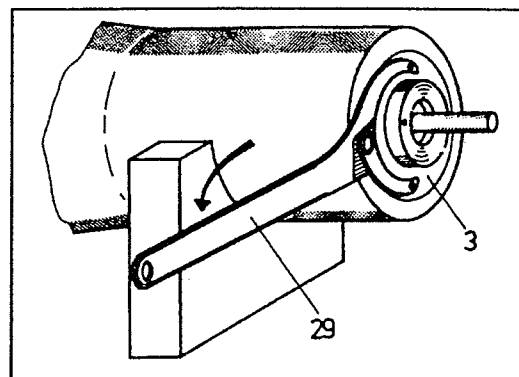
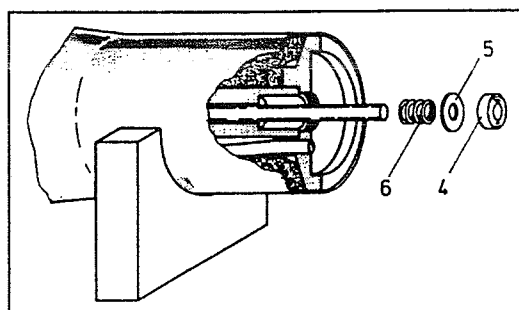

Fig. 3
Fig. 4
- The liquid distributor pos. 3 is fixed by means of the pin spanner pos. 29. Take care the spanner is lying completely plane against the liquid distributor. The liquid distributor is dismounted. Thereafter, the guide bearing pos. 4 the washer pos. 5 and the spring pos. 6 can be pulled off the shaft (Fig. 3; Fig. 4).
- The 4 screws pos. 19 and pos. 25 are dismantled by means of the screw driver pos. 28. Thereafter the motor is removed by pulling it out of the guide pins pos. 24.
- Check the guide bearing pos. 4. Replace if internal diameter exceeds 6.7 mm (Fig. 4).